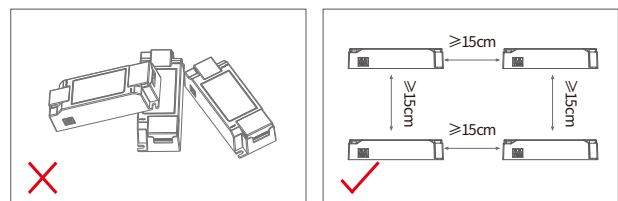

Figure 6
- A certain distance should be maintained between the driver, and the recommended distance should be $\geq 15\text{cm}$ to avoid affecting the heat dissipation and service life of the product, as shown in Figure 6.